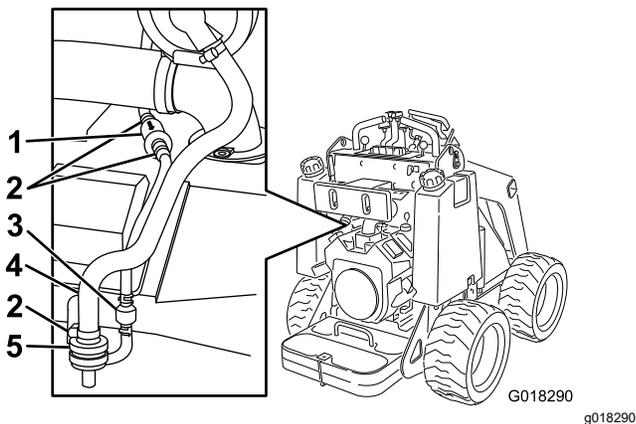

Figure 22
3. Loosen the hose clamp above the carbon-canister air filter (Figure 22).
5. Install a new filter into the hose and secure it with the hose clamp (Figure 22).
3. Move the spring-type hose clamps on both sides of the carbon canister purge-line filter away from the filter (Figure 22).
4. Remove and discard the purge-line filter (Figure 22).
5. Install a new filter into the hose with the arrow on the filter pointing toward the check valve and secure it with the hose clamps (Figure 22).
4. Remove and discard the air filter (Figure 22).